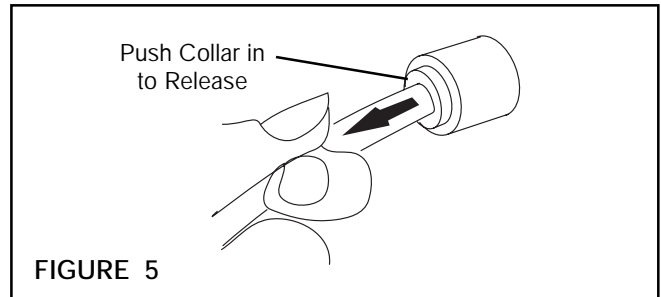

FIGURE 5
- a. To disconnect the Air Line, push in on the collar of the fitting and pull the Air Line out (See Figure 5).